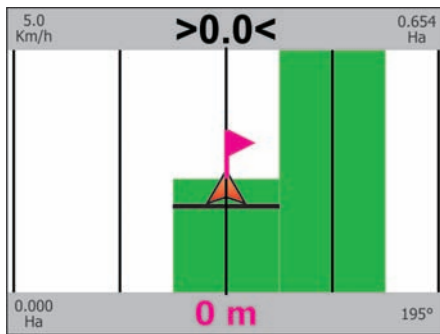

Fig. 239
- Once you reach the flag position, distance value gets to "zero" (Fig. 239): press **OK** or **ESC** to quit this procedure.